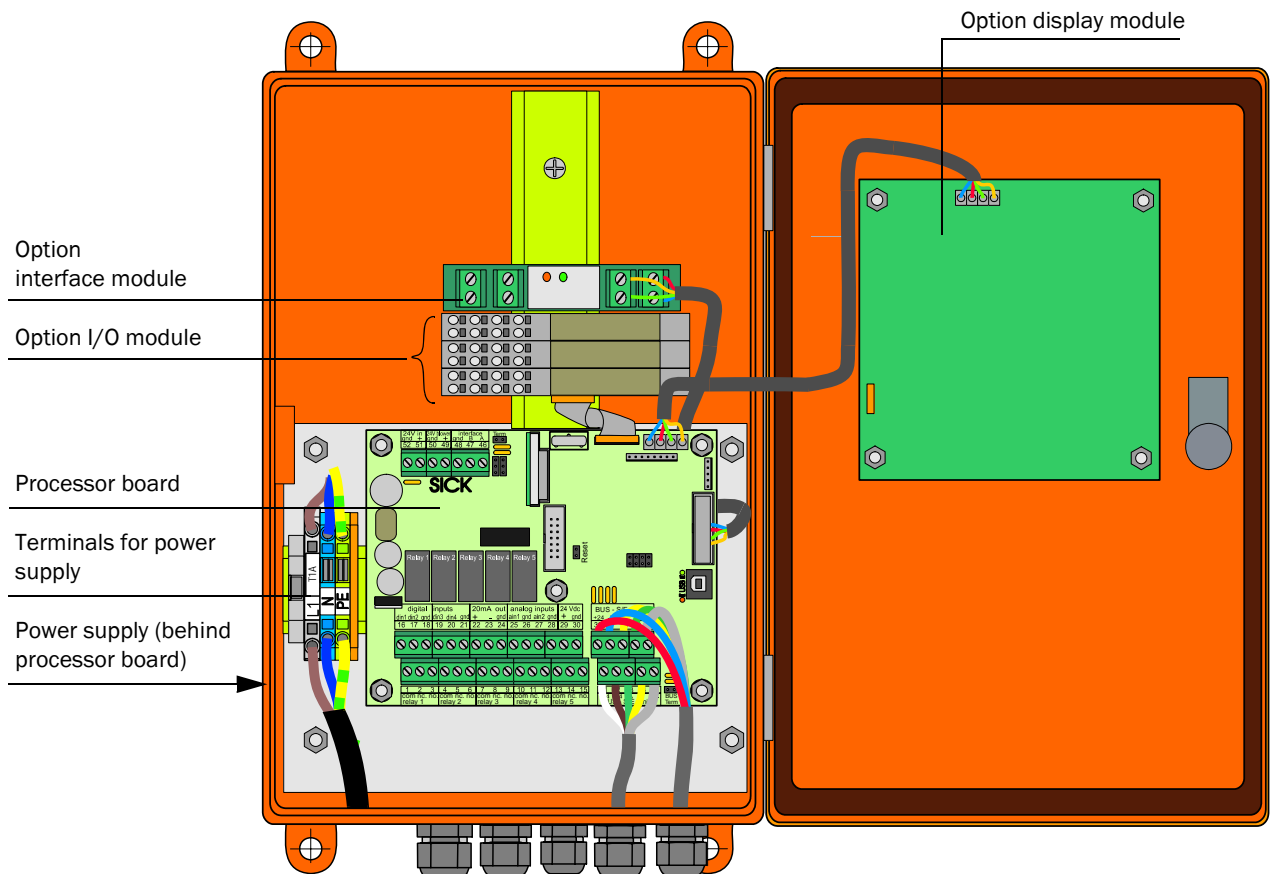
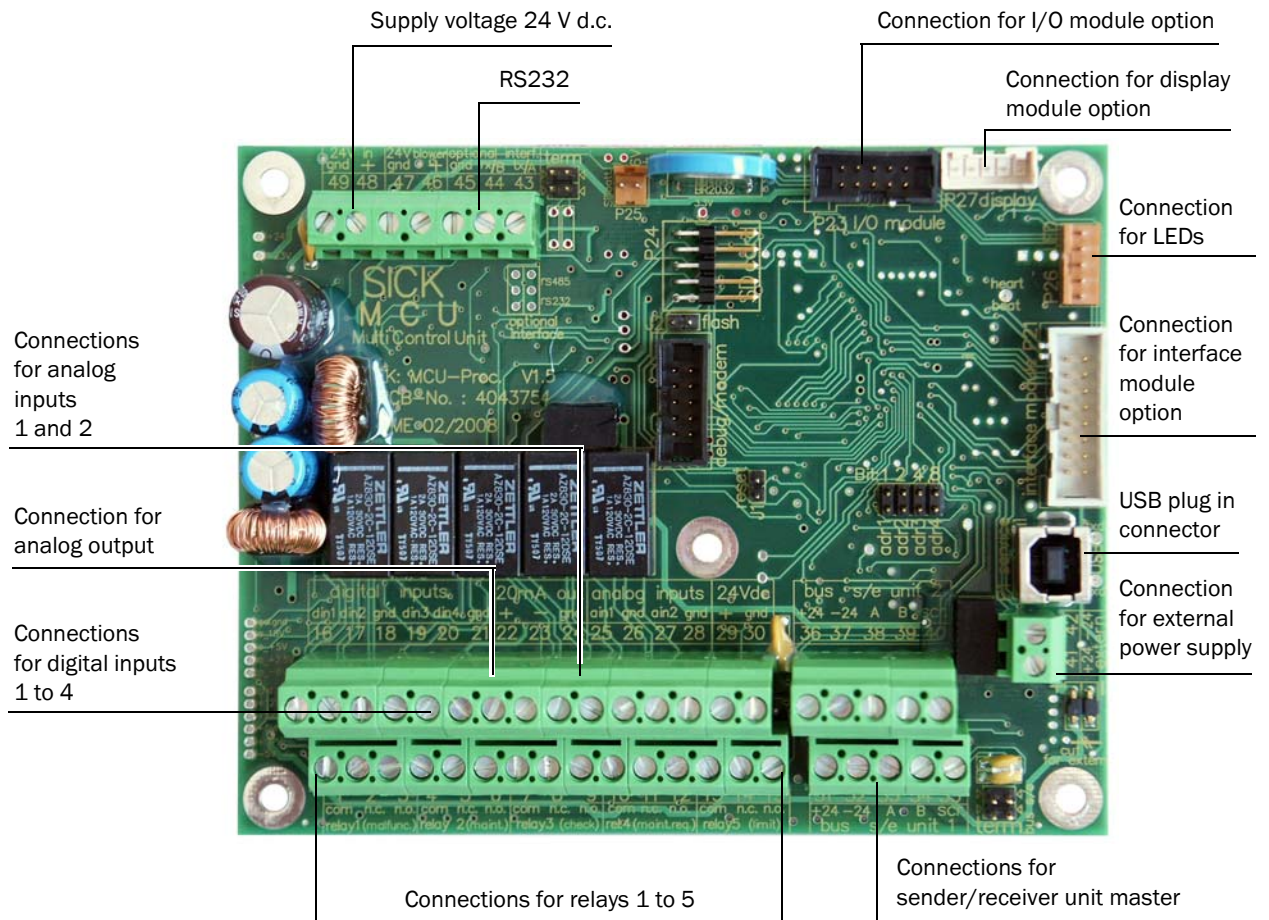

Fig. 3.12: Component alignment in the MCU
Fig. 3.13: Connections on the MCU processor board
- ▶ Connect the power supply cable to terminals L1, N, PE (see **Fig. 3.12**)
- ▶ Connect the power supply cable to terminals L1, N, PE (see Fig. 3.12)
Plug these modules onto the top hat rail in the MCU (see **Fig. 3.12**) and connect them with the cable with plug to the corresponding connector on the processor board (see **Fig. 3.13**).
- ▶ Connect the USB cable to the MCU control unit (see Fig. 3.13) and laptop/PC.